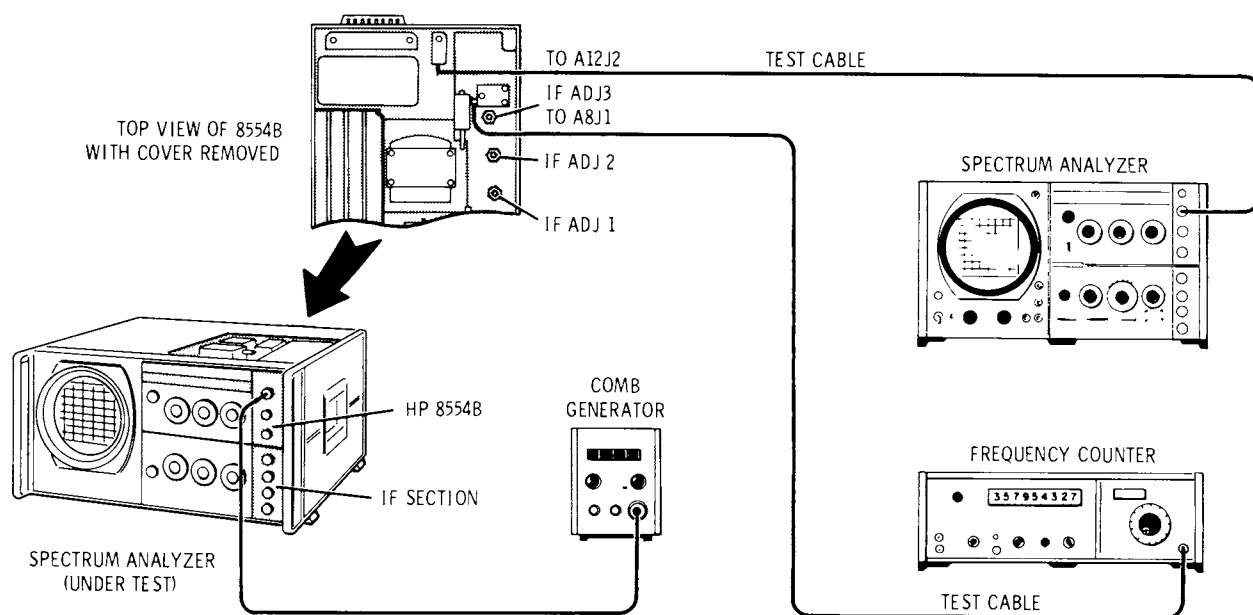

Figure 5-7. 2050 MHz Bandpass Filter Adjustment Test Setup
5. With the test setup connected as shown in Figure 5-7, make the following control settings: